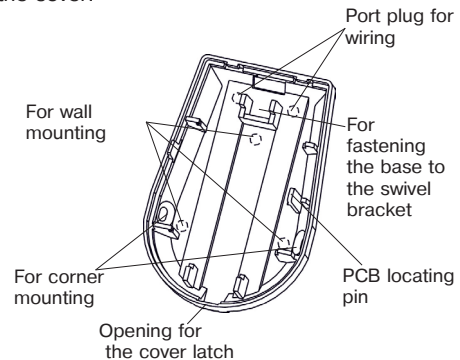

Figure 2 – Base
- Push the lock by a screw-driver through the hole on the lower side of the Detector base (See Figure 2) and put off the cover.